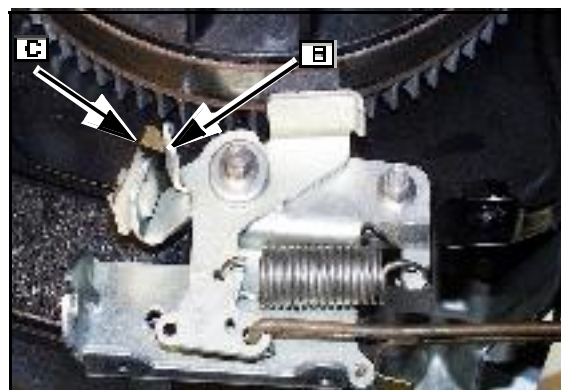

Fig. 40
2. Move safety control on equipment to **RUN**, then to **STOP**. The tab on the brake pad lever ([B] Fig. 40) must contact the switch tang ([C] Fig. 40).